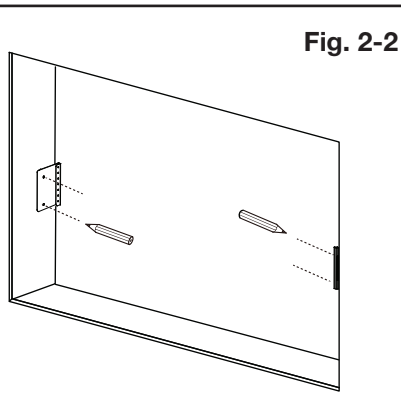

Fig. 2-2
- E. Mark the holes for the mounting bracket. Ensure the marked holes are on opposite sides, as the brackets cannot be mounted on the same side (**Fig. 2-2**).